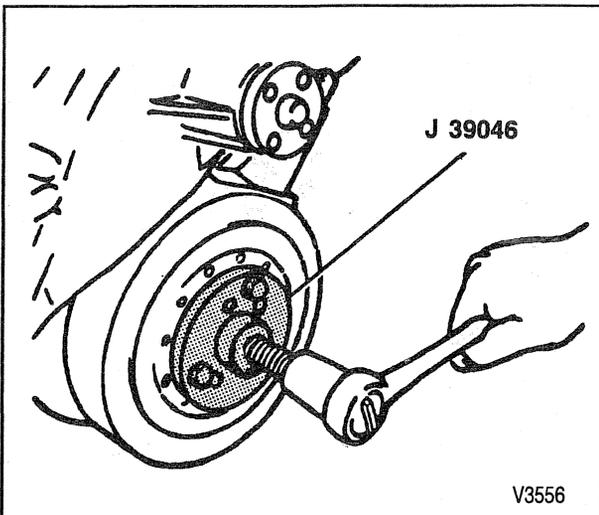

Figure 20—Removing the Torsional Damper
Remove or Disconnect (Figures 20 and 21)
5. Torsional damper. Use tool J 39046 (figure 20).